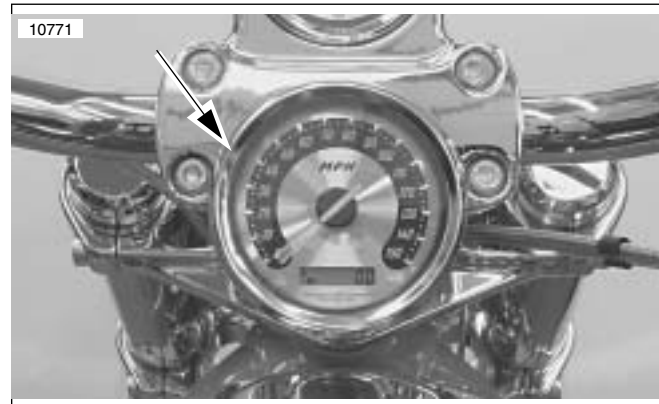

**Figure 8-17. Remove Speedometer**
2. See Figure 8-17. Insert speedometer into mounting bezel.